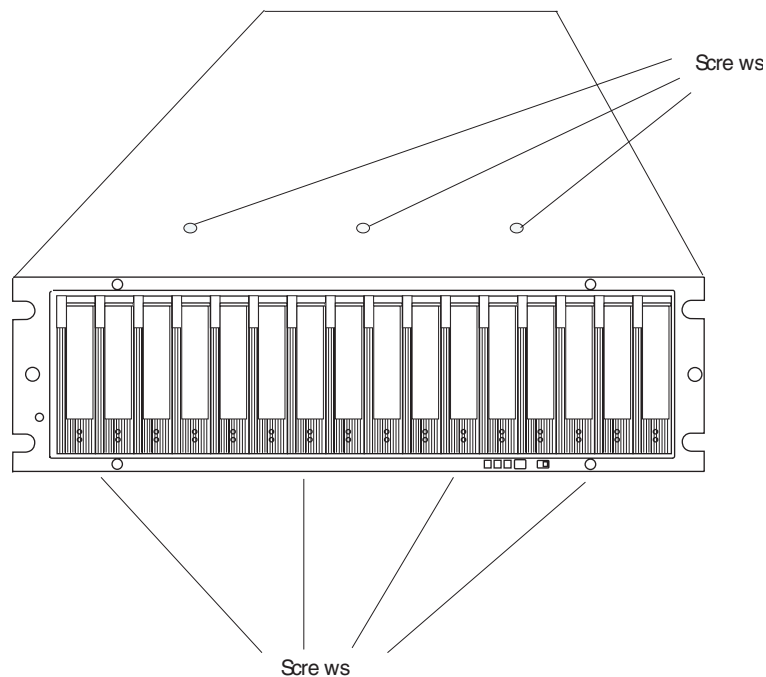

Figure 85. Screws holding the top and bottom sides of the chassis to the cage frame
Pull the chassis outward from the front of the rack and remove from the rack. Place it on a level surface. Look for a row of three Phillips screws on top of the chassis and a row of four Phillips screws on the bottom of the chassis, as shown in Figure 85. Remove the seven Phillips screws using the #1 Phillips screwdriver. Save these screws.
17. Install the seven Phillips screws (three on top and four on bottom) that hold the front cage frame to the EXP810 chassis that you removed in step 12 on page 146, as shown in Figure 85 on page 147.